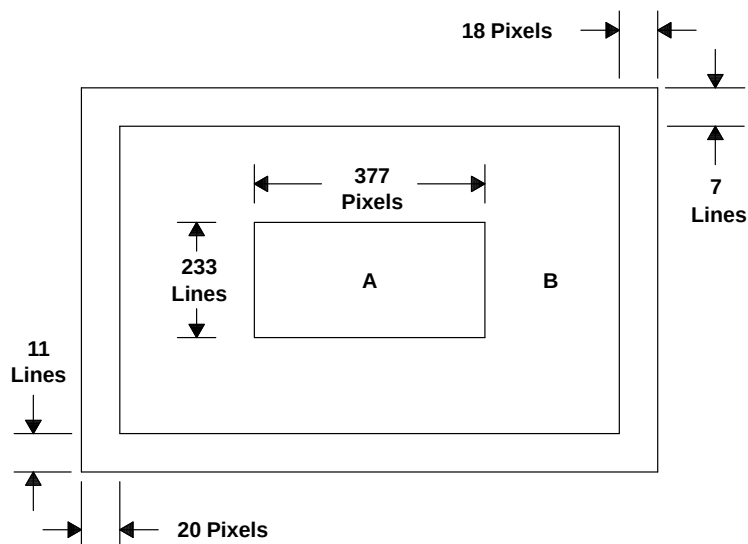

Figure 7. Sensor Area Map
- Location of the nonuniformity (see Figure 7)